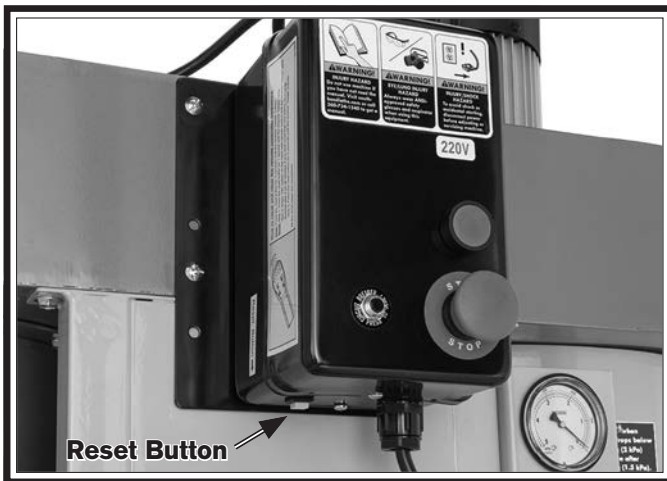

Figure 63. Receiver reset button.
1. Press and hold red RESET button for 3 seconds (see **Figure 63**) to clear receiver. Receiver will beep three times.